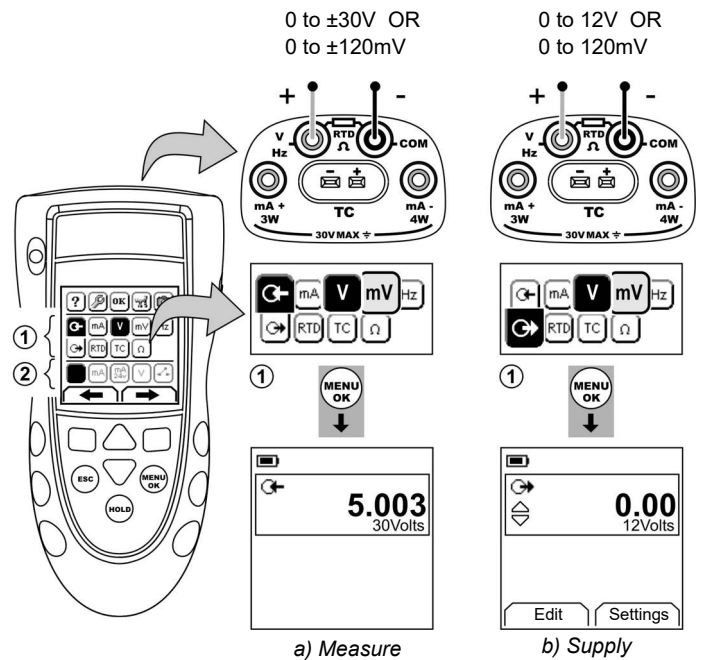

Figure 4: Example configuration - To measure/supply Volts or mV (Area ①)
1. Connect the instrument (Figure 4/5) and, if necessary, adjust the Set Up (Table 1).
- Note: Use the Dual Function area (②) to do two operations at the same time. If the area ② selection is not necessary, set this area to off (■). This saves the battery power.*